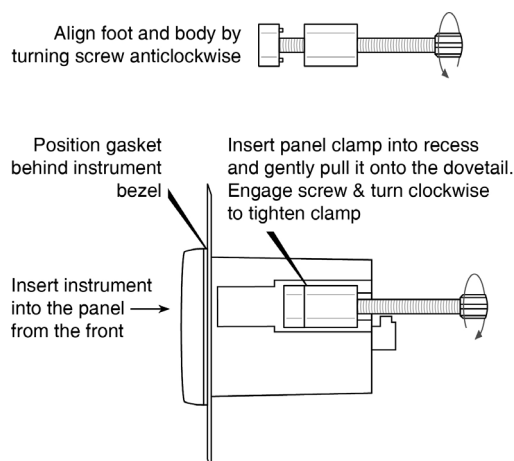

Fig 6 Fitting panel mounting clamps
- Place a clamp in the recess on each side of the instrument, pulling gently to slide it onto the dovetail as shown in Fig 6. Push the knurled screw slightly forward to engage the thread and tighten by turning clockwise until it is just finger tight. When the clamps are fitted ensure that the gasket behind the front panel bezel is correctly positioned before fully tightening the clamps to secure the instrument. The maximum recommended clamp tightening torque is 22cNm (1.95 lbf in) which is approximately equivalent to finger-tight plus one half turn. **Do not over tighten.**